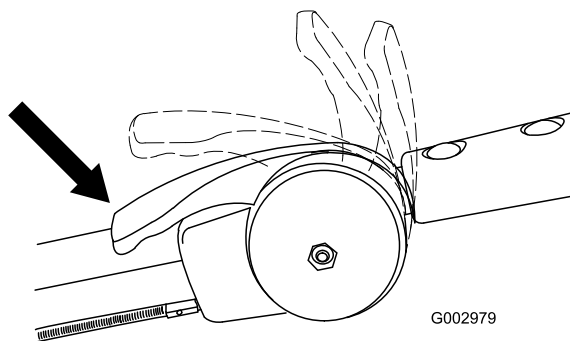

Figure 21
3. Move the throttle lever to the Choke position (Figure 21).